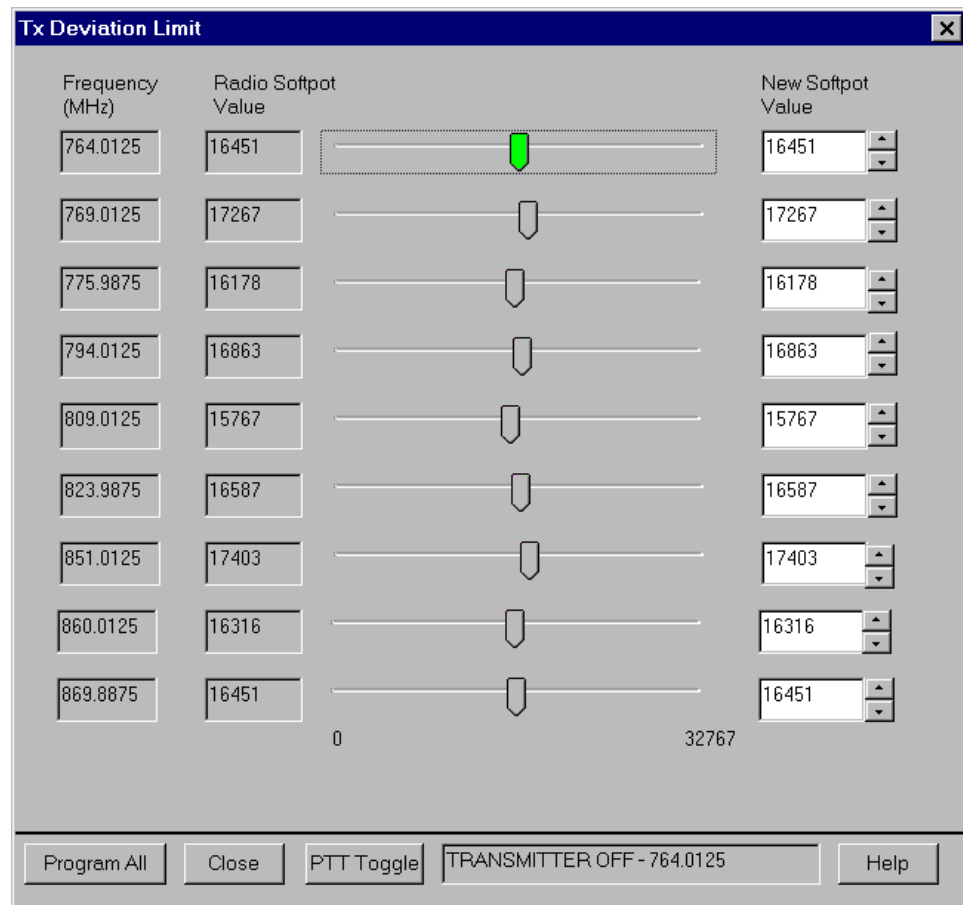

Figure 12. Transmit Deviation Limit Alignment Screen
1. Select the **TX Deviation Limit** alignment screen. The screen will indicate the transmit frequencies to be used. See Figure 12.